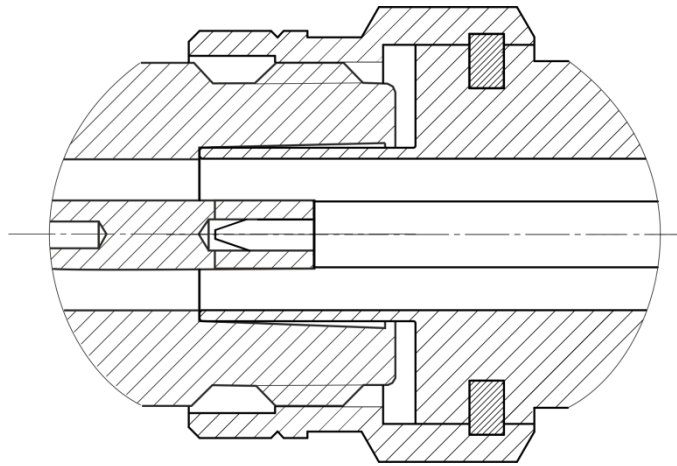

Figure 6.5 Type N connectors (female on the left, and male on the right)
- While holding the device being connected, tighten the male connector nut finger tight. Mating plane surfaces of center conductors and outer conductors have to make uniform light contact as shown in figures 6.5 (for type N connectors) and 6.6 (for 3.5 mm connectors).